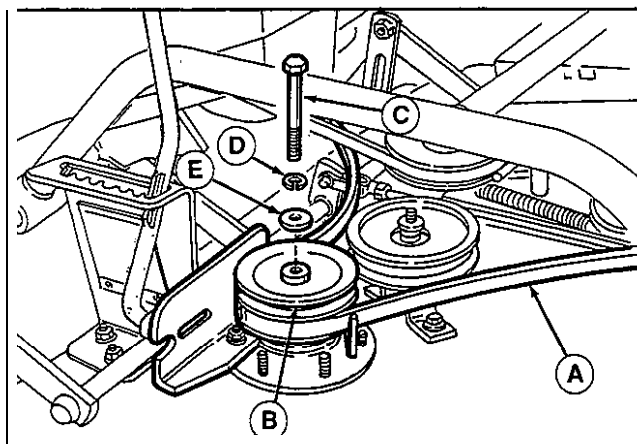

Figure 5.
9. Slip the mower drive belt (A, figure 5) around the bottom groove of double-groove pulley (B). Install pulley with hub down and secure with new 7/16-14 x 2-1/4" capscrow (C) and washers (D and E) removed in step 5. Make sure splines are correctly aligned and torque capscrow to 55-60 ft. lbs. Use a wood block to prevent the blade from turning.